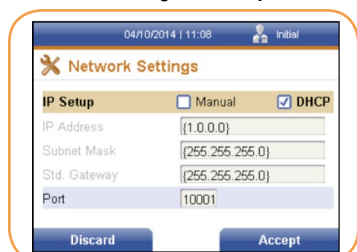

FIGURE 23
2. Press the right soft key to select it. The Network Settings screen is displayed (Figure 23).